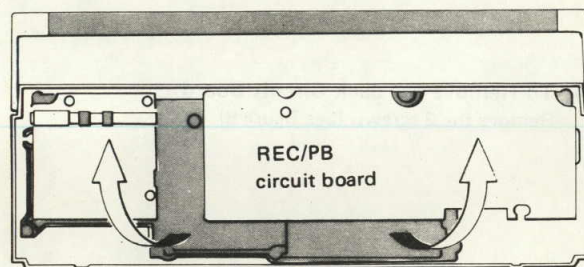

Fig. 5
- 4) Separate the main chassis from the front cabinet by raising the chassis in the direction of the arrows. (See figure 5)